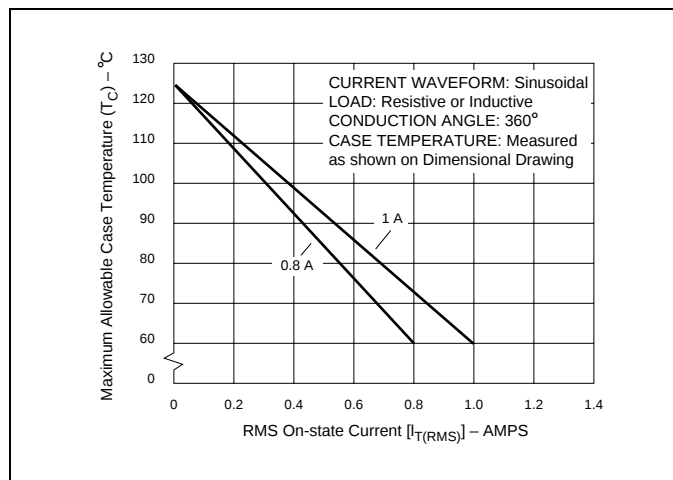

Figure E2.1 Maximum Allowable Case Temperature versus On-state Current (0.8 A and 1 A)
- (1) For either polarity of MT2 with reference to MT1 terminal
- (2) For either polarity of gate voltage (V_{GT}) with reference to MT1 terminal
- (3) See Gate Characteristics and Definition of Quadrants.
- (4) See Figure E2.1 through Figure E2.7 for current rating at specific operating temperature.
- (11) See package outlines for lead form configurations. When ordering special lead forming, add type number as suffix to part number.
- (12) Initial on-state current = 200 mA dc for 0.8 A to 10 A devices, 400 mA dc for 15 A to 35 A devices
- (13) See Figure E2.1 through Figure E2.6 for maximum allowable case temperature at maximum rated current.
- (14) Pulse width $\leq 10 \mu s$; $I_{GT} \leq I_{GTM}$
(18) Quadrants I, II, III only
(19) Minimum non-trigger V_{GT} at $125^\circ C$ is 0.2 V for all except 50 mA MAX QIV devices which are 0.2 V at $110^\circ C$.